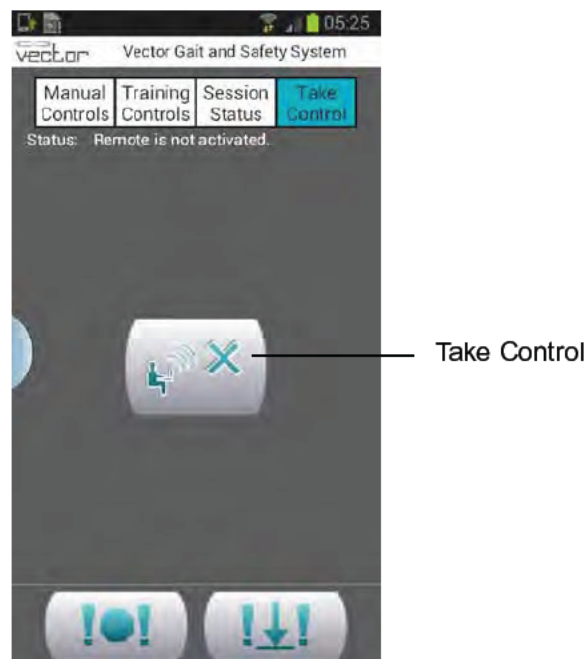
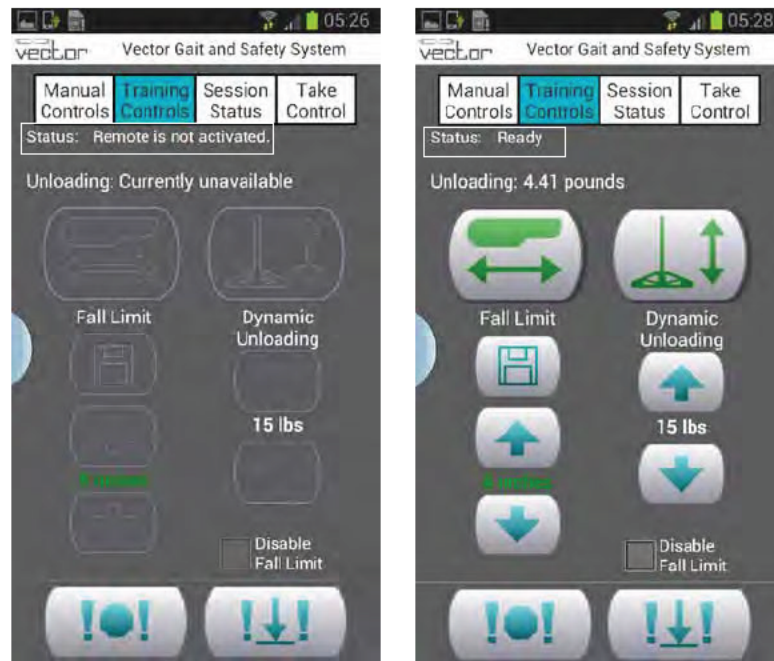

Figure 7-6: Take Control Screen
Figure 7-7: Example of Status Displays for Remote Control
1. Press the Take Control button to transfer control from the PC to the Remote Control. See Figure 7-6. Once control has been transferred, the Take Control button on the Remote Control will be disabled and the Training Controls buttons will be enabled. See Figure 7-7.
Only one device (PC or Remote Control) can be in control of the Vector Elite System at any given time. This is a safety feature designed to prevent potentially conflicting commands from being issued by different clinicians on separate devices. Both devices display on the screens whether they are or are not in control. To ensure that only one device is in control, the buttons on the device will only be active/enabled if that device is in control. See Figure 7-7.